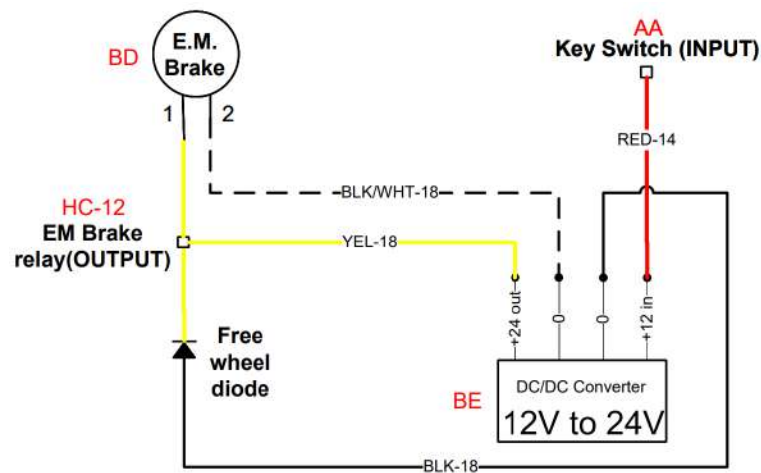

Figure 70. DC/DC Converter Input and Output Terminals Inspection.
2.1.1. Check for the presence of voltage between the positive terminal (**B+**) (Red Wire - 14 AWG) and the negative terminal (**B-**) (Black Wire - 18 AWG) of the DC/DC converter (As shown in Figure 70).
2.2.1. Check for the presence of voltage between the Yellow wire (18 AWG) and the Black/White wire (18 AWG) of the DC/DC converter (As shown in Figure 70).